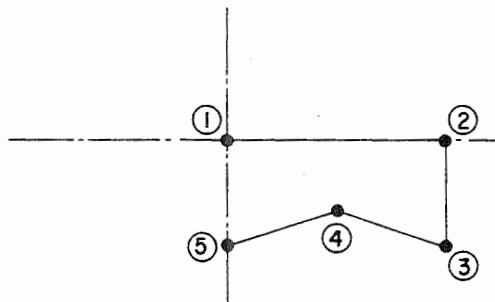

Fig. 1
Then press the  key on the function selector section. This erases the data up to point ① created using the jump input function. The needle will then return to its origin. The pattern now has a linear stitch between point ② and point ⑤ starting from the origin as illustrated in Fig. 1.